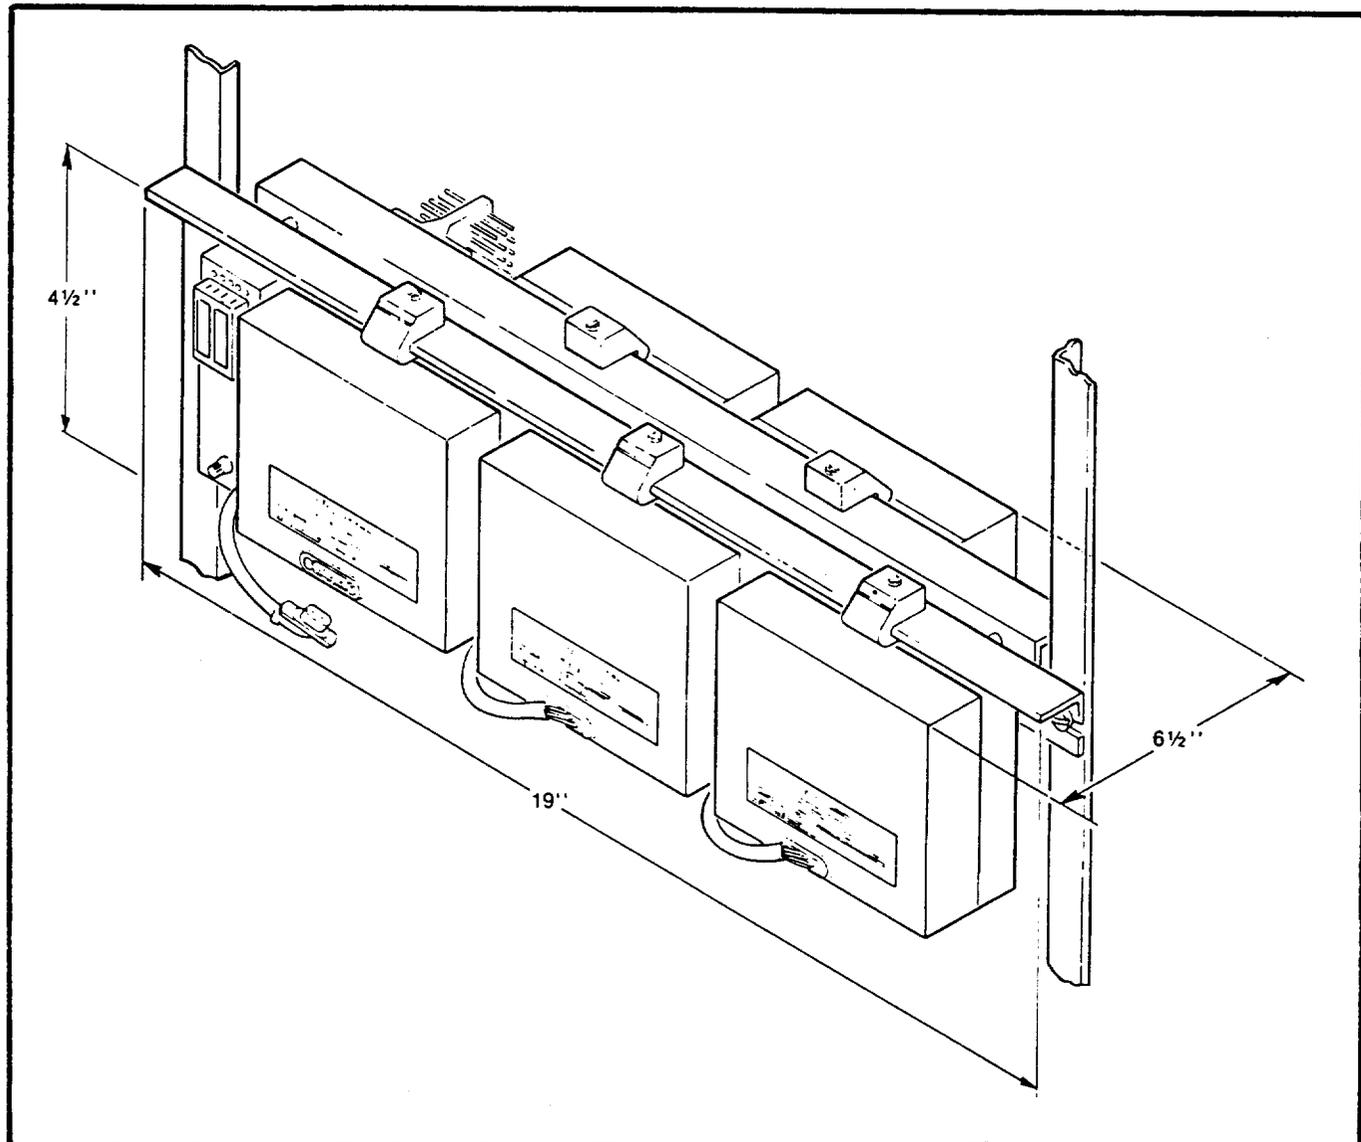

Figure 2. 100339 Mounting Frame Assembly
3.02 When used in non-Strowger offices or in installations where angle iron mounting is restricted, a 100339 mounting frame assembly (Fig. 2) can be used which accommodates five TonePulse Converters. A 24 point terminal block is included with this frame assembly for the purpose of interconnecting the TonePulse Converter between the linefinder and the first selector. The frame assembly is designed for 19" relay-rack mounting and contains its own fusing (1 amp per Converter). An alarm lead is also located on the terminal block. For additional mounting methods, refer to Section 21.